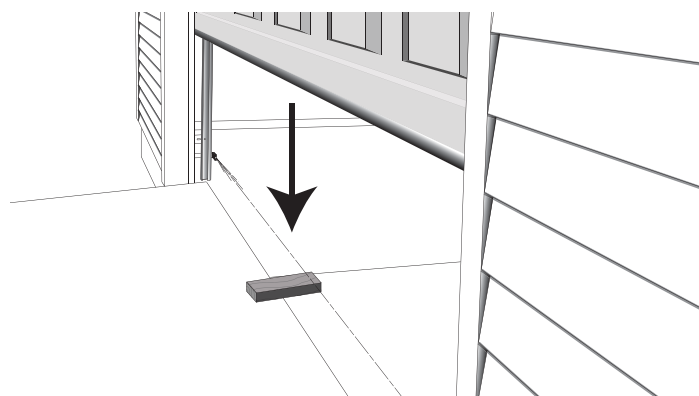

FIG. 6-6 2 x 4 under center of door opening
- Place a 2" x 4" board (laid flat) under **center of garage door opening** (Fig. 6-6).